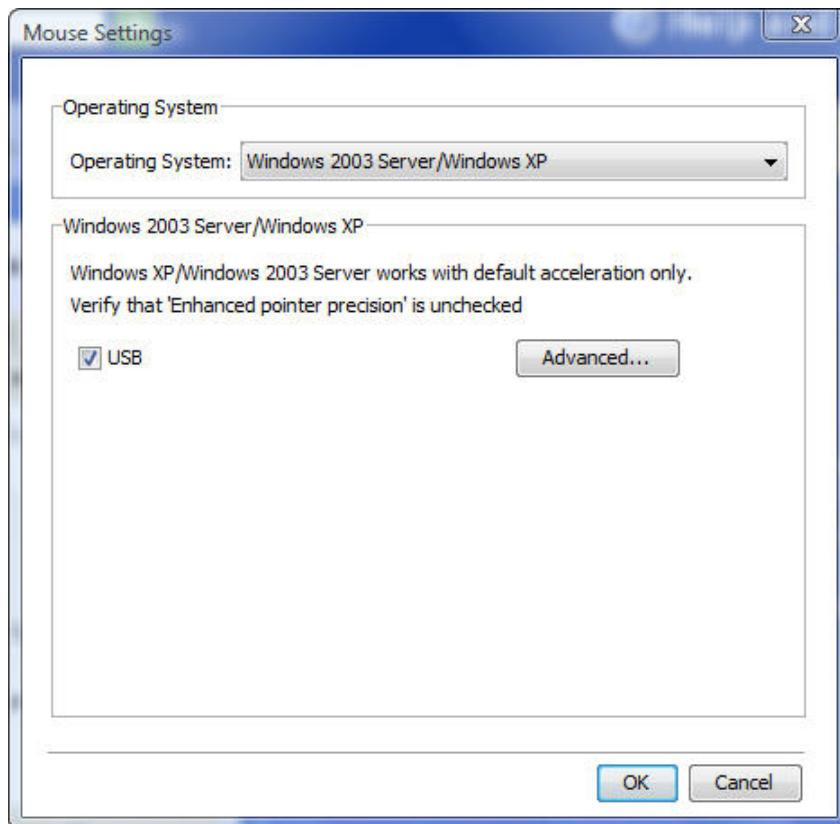

Figure 42 – Relative Mouse Settings
1. In the **Mouse Settings** box (see Figure 42), click **Advanced**.